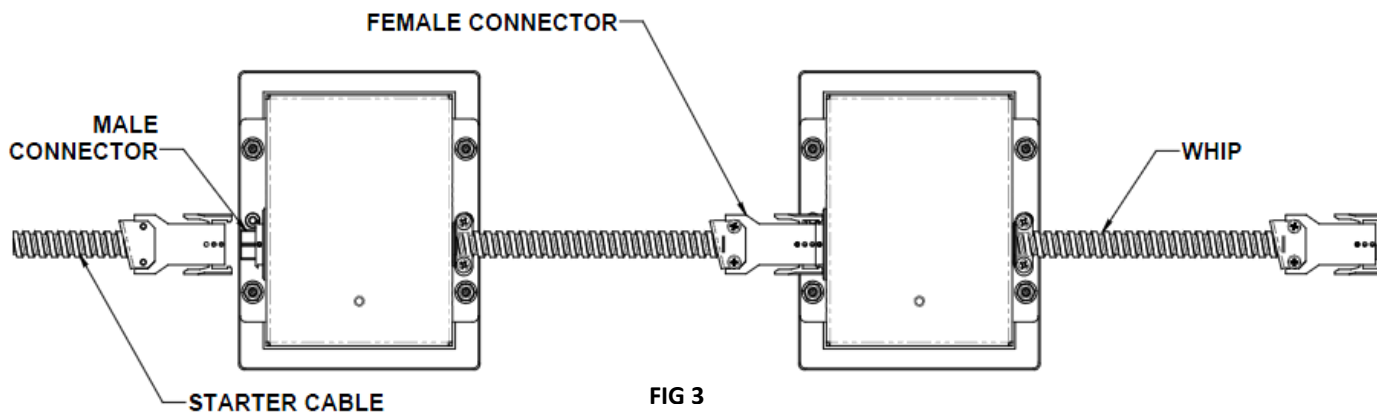

FIG 3
7. Starting with the last power unit and working toward the first connect each into the next. Connect the power infeed (sold separately) to the first power unit in the circuit (FIG 3).